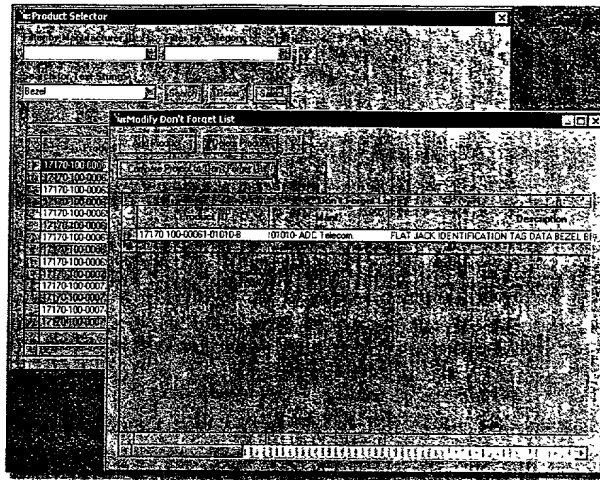

Figure 34 Comparing Project to 'Don't Forget' List
76. Select a bezel of your choice by using the Select button (Figure 34)